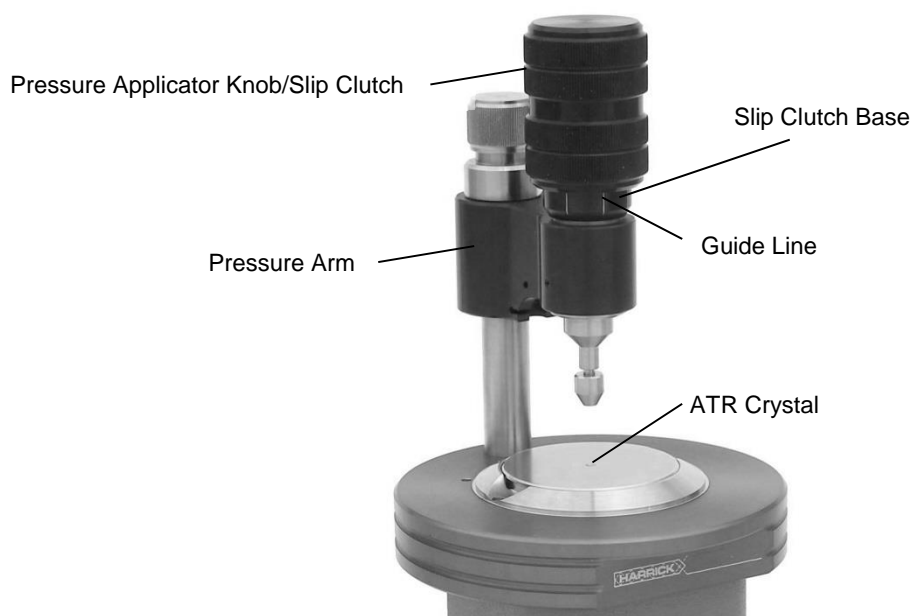

Figure 9 • Pressure Applicator Knob
- Turn the built-in slip clutch (Figure 9) clockwise until adequate pressure is applied. Pressure is sufficient when the absorption band intensity no longer significantly changes with increased pressure or when the slip clutch begins to 'slip' and the guide lines on the slip clutch base no longer move.